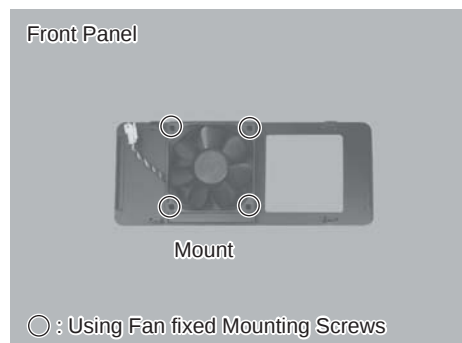

Fig. 44
- (10) Mount the Replacement FAN onto the Case (Front Panel) by using FAN Mounting Screws (4pcs.) (Specified Torque : $0.5\text{N}\cdot\text{m}\pm 0.1$) (Fig. 44).